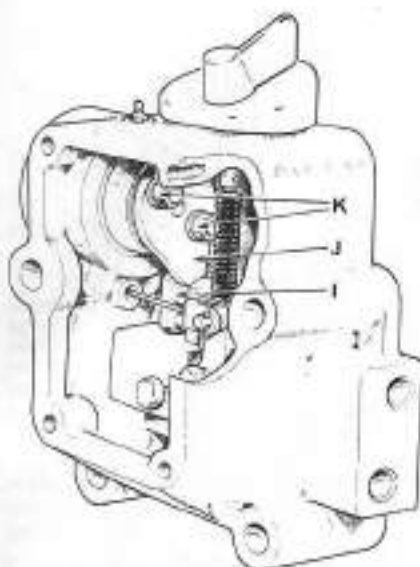

Fig. 187 — Adjusting rocker shaft cam; refer to text for adjustment procedure and specifications.
With tractor and hydraulic system assembled, but with cover plate removed from right rockshaft support bracket, lift linkage by hand and engage locking latch to hold the linkage in raised position. Then, refer to Fig. 187 and check to see that push rod roller (I) is seated in cam indentation (J). If cam is not in this position, loosen nuts (K) and turn cam by inserting lever under end of rockshaft and holding push rod down against its spring until roller engages cam indentation, then retighten nuts and install cover plate.